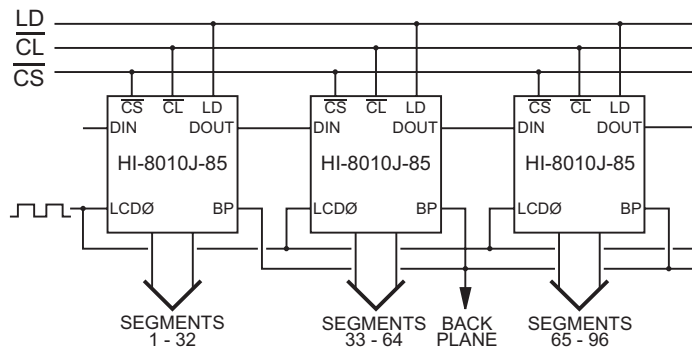
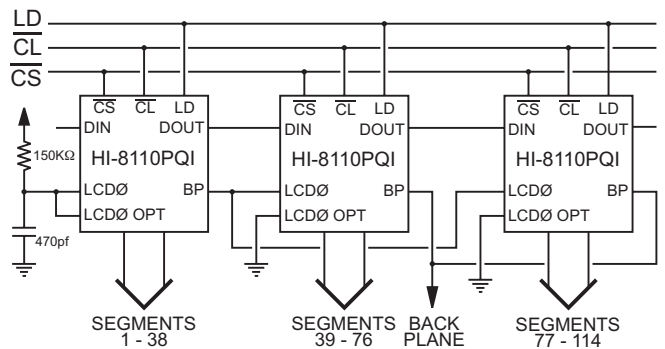

Figure 2
Figure 3
The backplane output functions in 1 of 2 modes; externally driven or self-oscillating. When the LCD0 input is externally driven with the LCD0OPT input open circuit (Figure 2), the backplane output will be in-phase with LCD0. Utilizing the self-oscillating mode, inputs LCD0 and LCD0OPT are tied together and connected to an RC circuit (Figure 3). A 150K Ω resistor with a 470pF capacitor generates an approximate backplane frequency of 100Hz. The LCD0/LCD0OPT oscillator frequency is divided by 256 to determine the backplane output frequency. The resistor value (R) must be at least 30K Ω for proper self-oscillator operation.
For displays having a number of segments greater than 38, two or more of the display drivers may be cascaded together by connecting the serial data output (DOUT) from the first driver, to the serial data input (DIN) of the following driver, etc. (See Figures 2 & 3). Data out (DOUT) will change state